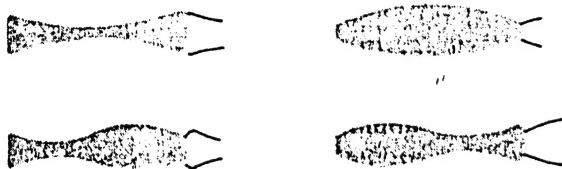

Fig.17 Incorrect waveform examples
- If the waveform varies as shown in Fig.17, adjustment is required.